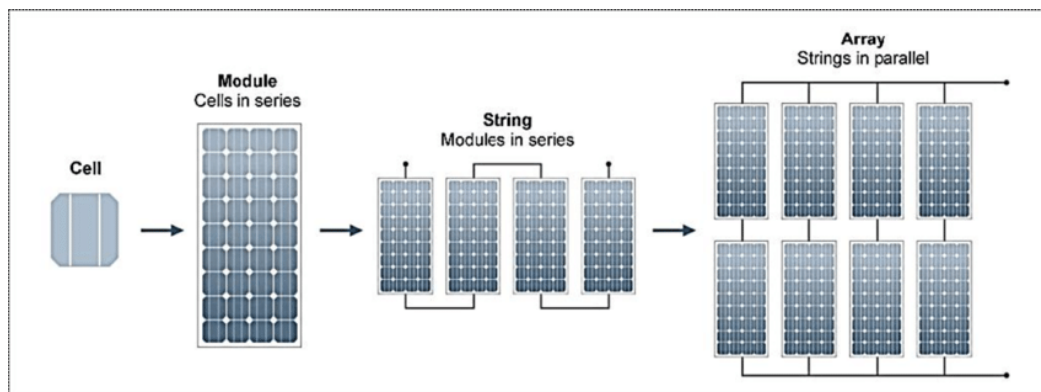

Figure-14. PV Cell, Module and Array Designs
The photovoltaic cells illustrated in Figure-14 are electronic systems designed to directly convert solar radiation into electricity. These cells are distinguished by their lack of moving mechanical components, ease of maintenance, and long lifespan. They are constructed using semiconductor materials, which facilitate the transformation of solar energy into electrical energy. The operation of a photovoltaic (PV) cell is akin to that of a semiconductor diode, where sunlight energy triggers a photoelectric reaction that results in the generation of electric current. The efficiency of this conversion process typically ranges between 5% and 20%, depending on the specific PV cell structure.
PV cells are commonly found in square, rectangular, or circular shapes, with areas typically falling within the range of 60-160 cm² and an average of around 100 cm². They possess a thickness ranging from 0.2 to 0.4 mm. To enhance the power output, multiple PV cells are often connected in series or parallel configurations and mounted on a surface. This assembly, as depicted in Figure-14, is known as a PV module. Depending on the desired power requirements, PV modules shown in Figure-14 can be connected to each other in either series or parallel fashion, giving rise to PV arrays with capacities ranging from a few watts to several megawatts.